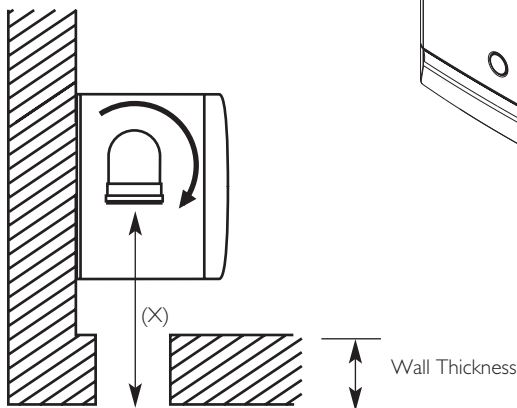

Fig. 40
4. Measure the distance from the outside wall face to the elbow. This dimension will be known as 'X' (Fig. 40).
5. If the distance from the flue elbow to the outside face of the wall ('X' in Fig. 40) is less than 250mm the Connection Assembly can be discarded and the Terminal Assembly fitted directly into the elbow.
6. In instances where the dimension 'X' (Fig. 40) is between 250mm and 315mm it will be necessary to shorten the Terminal Assembly by careful cutting to accommodate walls of these thicknesses.